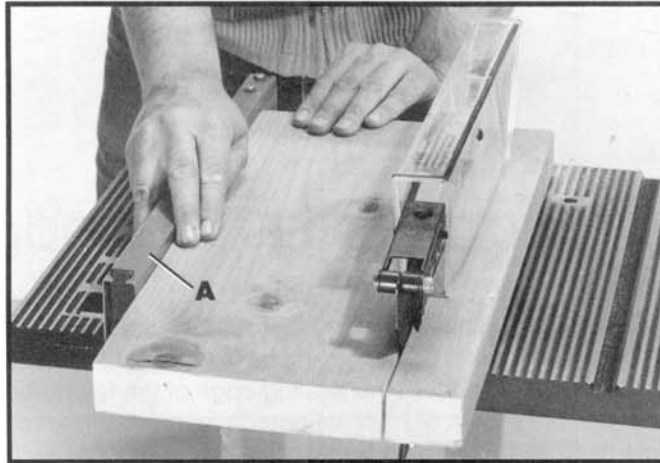

Fig. 32
Ripping is the operation of making a length-wise cut through a board, as shown in Fig. 32, and the rip fence (A) is used to position and guide the work. One edge of the work rides against the rip fence while the flat side of the board rests on the table. Since the work is pushed along the fence, it must have a straight edge and make solid contact with the table. The saw guard must always be used. The guard has anti-kickback fingers to prevent kickback and a splitter to prevent the saw kerf from closing and binding the blade.
Start the motor and advance the work, holding it down and against the fence. Never stand in the line of the saw cut when ripping. Hold the work with both hands and push it along the fence and into the saw blade as shown in Fig. 32. The work can then be fed through the saw blade with one or two hands. After the work is beyond the saw blade and anti-kickback fingers the hand is removed from the work. When this is done the work will either stay on the table, tilt up slightly and be caught by the rear end of the guard or slide off the table to the floor. Alternately, the feed can continue to the end of the table, after which the work is lifted and brought back along the outside edge of the fence. The cut-off stock remains on the table and is not touched with the hand until the saw blade is stopped, unless it is a large piece allowing safe removal. When ripping boards longer than three feet, it is recommended that a work support be used at the rear of the saw to keep the workpiece from falling off the saw table.